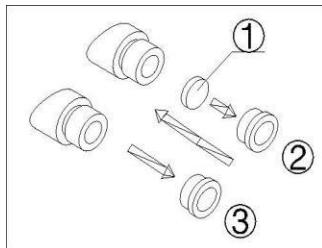

Fig.5
- 1) Turn and remove the mounting ring② from the eyepiece. (Fig.5)
- 2) Clean the eyepiece micrometre① and mount it to the mounting ring with the inscription side downward.
- 3) Gently twist the mounting ring with the eyepiece micrometre into the eyepiece till tightening② securely.
- 4) To remove the eyepiece micrometre, take down the mounting ring③ by twisting and take out of the micrometre, and then wrap it.